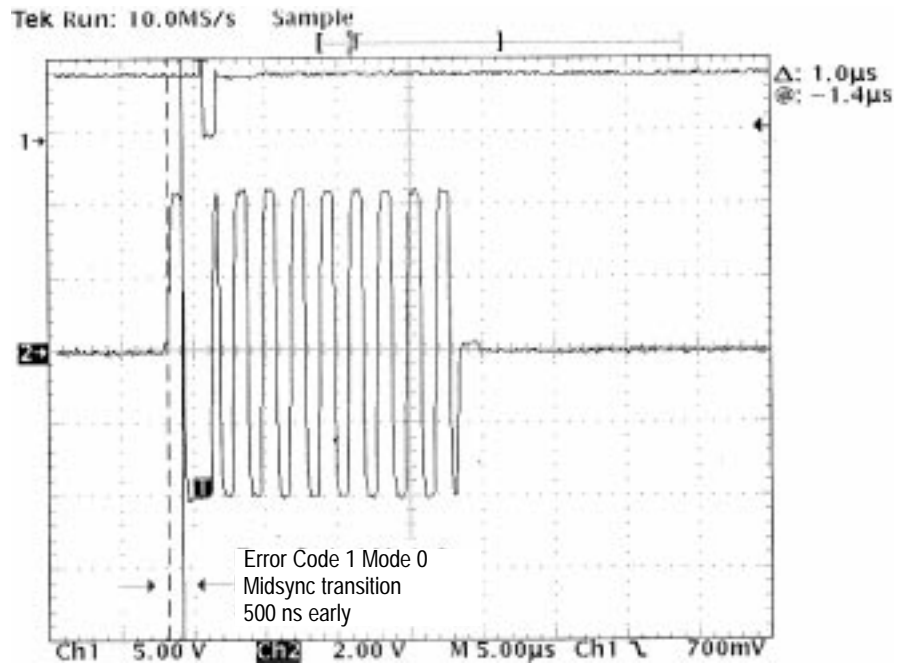

Figure 455-12: Midsync Transition 500 ns Early
2. Measure from the beginning of the sync to midsync. Verify that the reading is $1 \mu\text{s} \pm 70 \text{ ns}$. Refer to Figure 455-12.